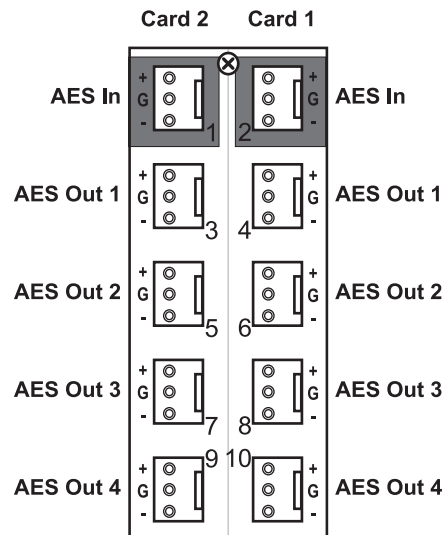

Figure 2.3 Cable Connections for the 8320AR-043 Split Rear Module
- **8320AR-043** Split Rear Module — Each rear module occupies two slots and accommodates two cards. This rear module provides one AES input and four outputs per card. (Figure 2.3)